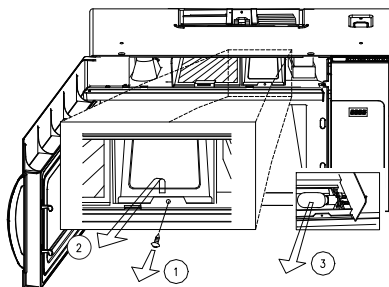

FIGURE 4
3. Remove a screw (1) for lamp cover.(See Figure 4.)
4. Pull out the Lamp cover. (See Figure 4.)